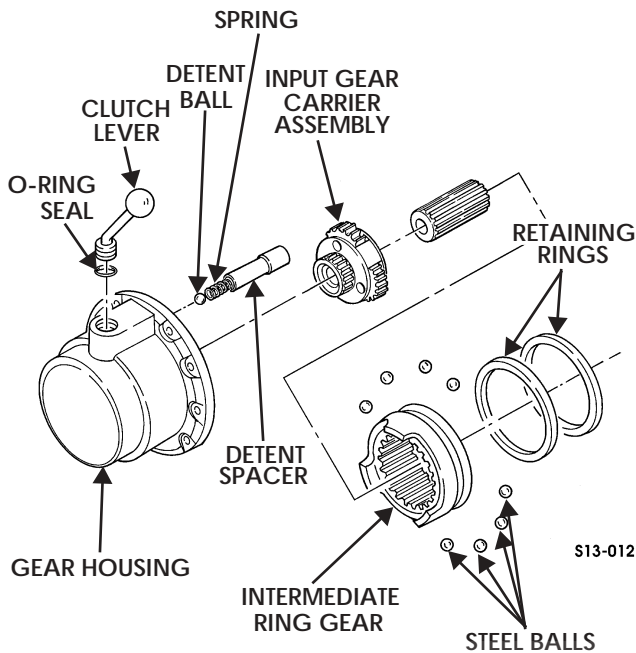

Figure 13-10: Gear Housing
18. Remove detent spacer, spring, and detent ball from gear housing (Figure 13-10).